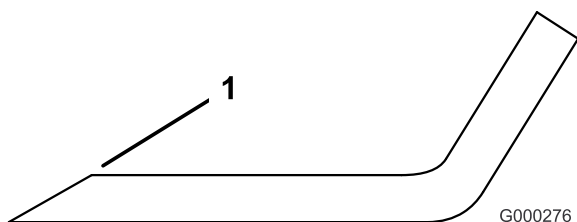

Figure 67
1. Use a file to sharpen the cutting edge at both ends of the blade (Figure 67). Maintain the original angle. The blade retains its balance if the same amount of material is removed from both cutting edges.